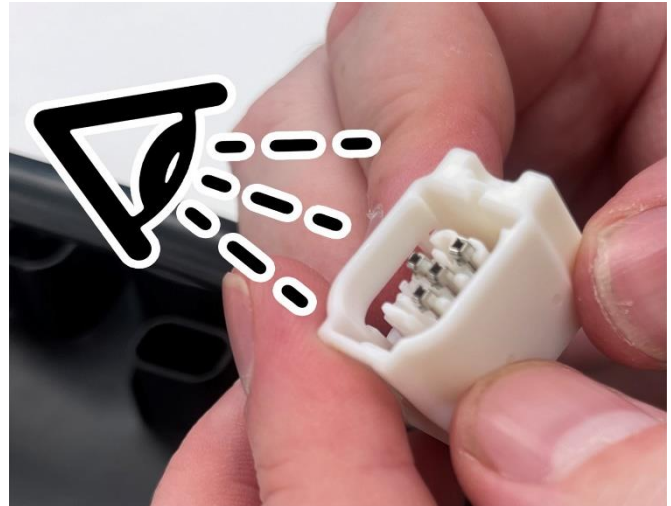

Figure 7 – Wire Installation Verification
15. Verify the wires are seated correctly in the connector (Figure 7).